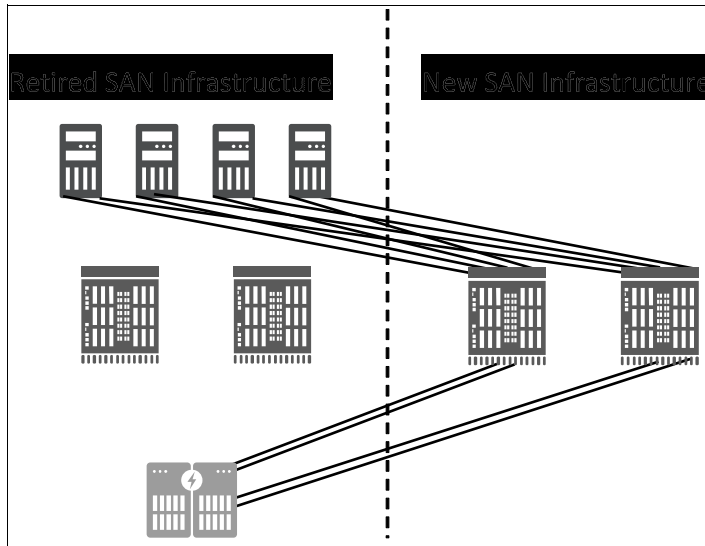

Figure 5-17 SAN director migration example (retiring old SAN)
- ▶ Retire old SAN infrastructure (see Figure 5-17 on page 103).